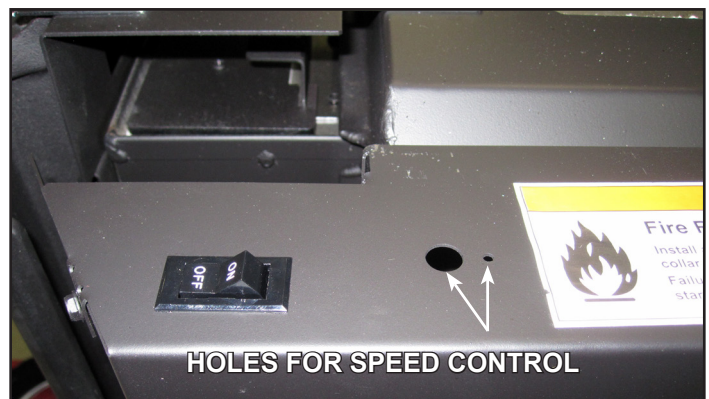

Figure 8.6 - Pre-Punched Holes for Speed Control
4. Remove the knob and locknut from the speed control. Install speed control onto rear shroud with stem protruding from pre-punched hole. Attach the lock nut tightly and reattach the knob on the stem, Figure 8.6.